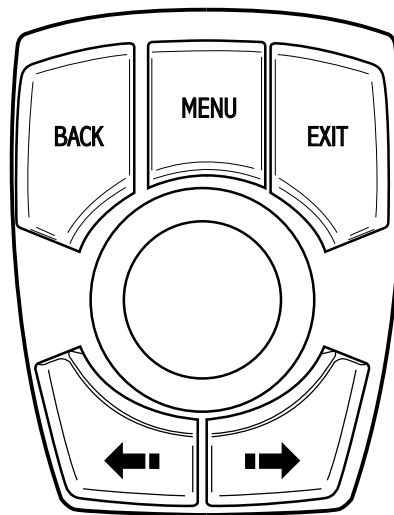

Figure 1, Rotary Encoder
1. With the truck ignition on, truck off. Press the MENU button on the rotary encoder. Navigate to “Settings” and to “Vehicle Configuration”. If no password has been set, press the rotary encoder when prompted for a password, otherwise enter password now. Record all options in Vehicle Configuration and save for later use (see Figures 1 and 2).